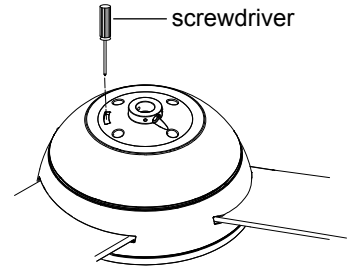

Fig.15
1. As shown in fig.15, move the coupling cover up to leave enough space, and insert a small screwdriver into the hole of the forward and reverse switch to turn the forward and reverse switch.